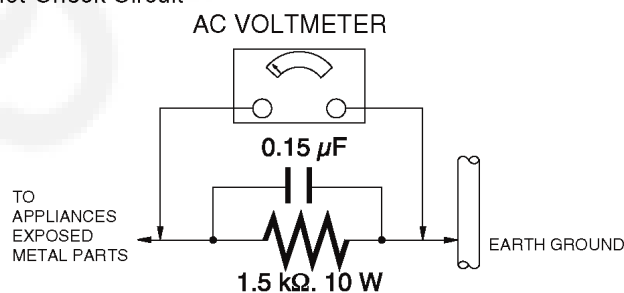

Figure. 1
2. Connect a 1.5 k Ω , 10 W resistor, in parallel with a 0.15 μ F capacitor, between each exposed metallic part on the set and a good earth ground, as shown in Figure. 1.